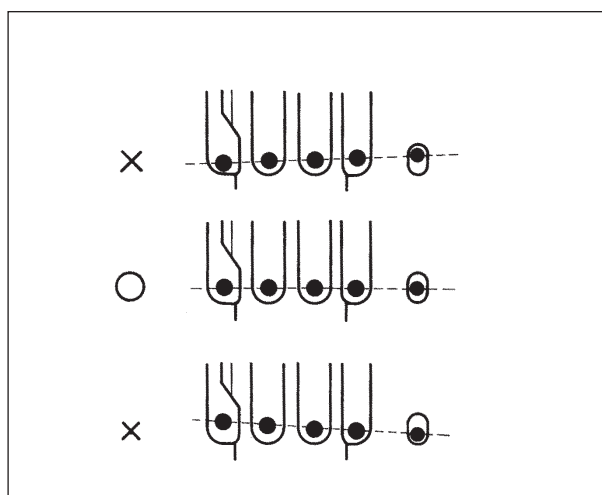

Fig. 1-4
- (1) Rotate the pulley to move the needle bar ③ to the highest point.
- (2) Insert the needle height test pin ① into the fourth hole to the left of the needle clamp ④ .
- (3) Remove the seal plug ⑤ .
- (4) Loosen the screw ⑥ .
- (5) Adjust so that the 13.49 mm (12.70 mm) section of the needle height gauge ② can enter smoothly with no clearance.
- (6) Set the needle, and make sure that the needle and the needle drop are parallel. (Fig. 1-4)
- (7) Tighten the screw ⑥ .
- (8) Install the seal plug ⑤ .